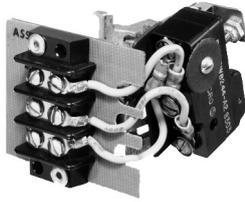

Figure 3
- **Series B** switches are general purpose with a maximum liquid temperature rating of +120 °C (+250 °F), see Figure 3.
- **Series C** switches are general purpose with a maximum liquid temperature rating of +230 °C (+450 °F), see Figure 3.
- **Series D** switches are designed for DC current applications with a maximum liquid temperature rating of +120 °C (+250 °F), see Figure 3.
- **Series O** switches are general purpose with a maximum liquid temperature rating of +150 °C (+300 °F), used only in model C10 and C15 units, see Figure 3.
- **Series Q** switches are general purpose with a maximum liquid temperature rating of +120 °C (+250 °F), used only in model C10 and C15 units, see Figure 3.